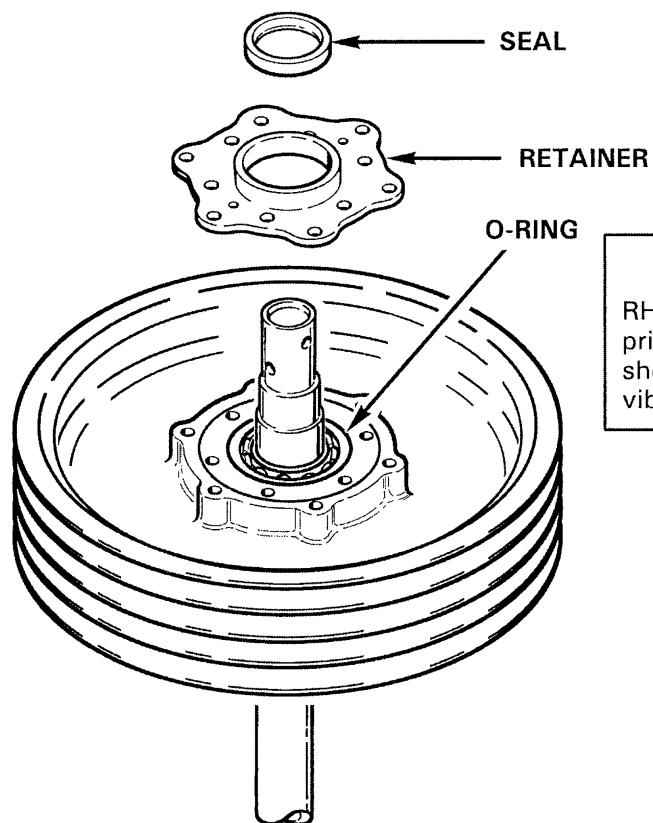

FIGURE 7-3C
4. Lift retainer plate with seal off shaft per Figure 7-3C. Remove exposed O-ring from clutch housing and discard.